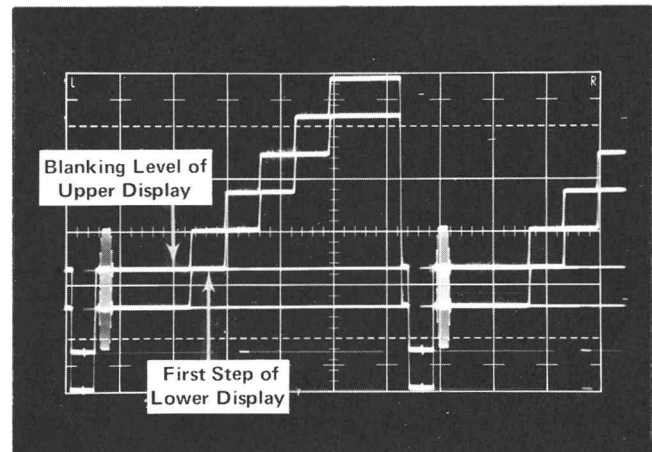
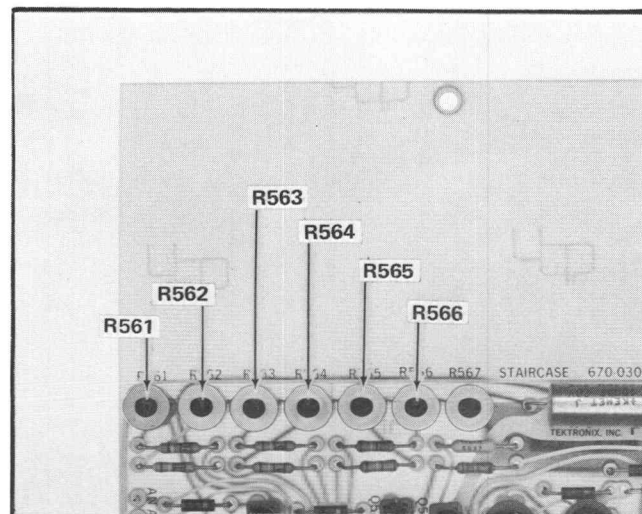

Fig. 5-31. Typical display to check staircase aberrations and rise-time.
Fig. 5-32. Staircase board adjustment locations.
d. Observing the test oscilloscope display, rotate the 067-0596-00 calibration fixture V2 Volts control until the first staircase level of the lower display aligns with the blanking level of the upper display as shown in Fig. 5-31 (approximately 1-4-04).
ad. ADJUST—R562 (see Fig. 5-32) until the first step aligns with the blanking level (similar to Fig. 5-31).
af. ADJUST—R563 (see Fig. 5-32) until the second step aligns with the blanking level.
ah. ADJUST—R564 (see Fig. 5-32) until the third step aligns with the blanking level.
- aj. ADJUST—R565 (see Fig. 5-32) until the fourth step aligns with the blanking level.
- al. ADJUST—R566 (see Fig. 5-32) until the fifth step aligns with the blanking level.
m. ADJUST—R561 (see Fig. 5-32) until the top of the bottom display meets the bottom of the top display.